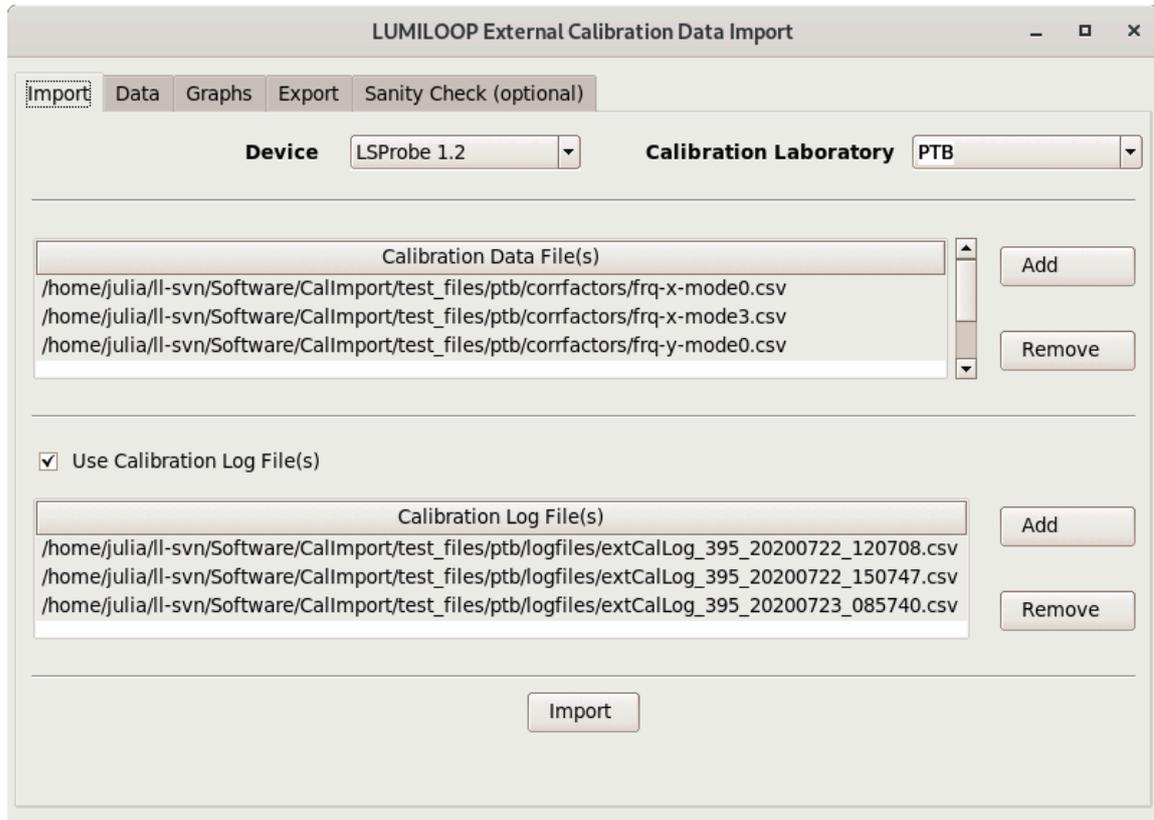

Figure 126: Using the calibration data import tool CallImport
1. Run CallImport as shown in Figure 126.